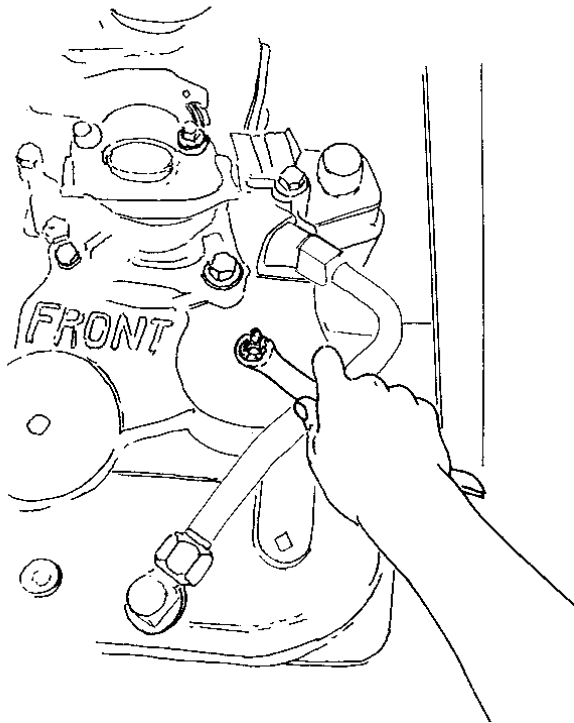

Figure 1 Install Air Fitting
2. Install an air fitting into the breather bore (Figure 1).